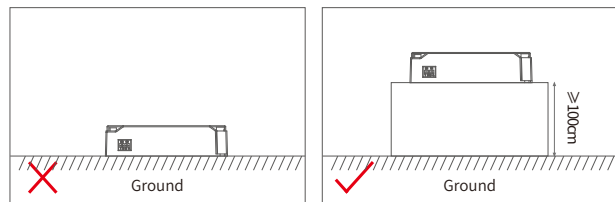

Figure 2
- The driver should be kept at a certain distance from the ground; the recommended spacing should be $\geq 100\text{cm}$ to avoid signal interference, as shown in Figure 2.